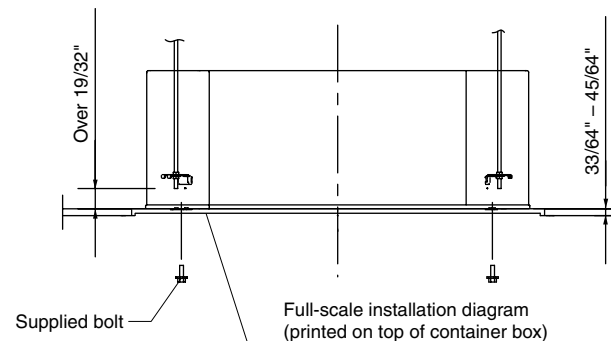

Fig. 3-31
- (1) When placing the unit inside the ceiling, determine the pitch of the suspension bolts using the supplied full-scale installation diagram. (Fig. 3-31)
- (2) The length of suspension bolts must be appropriate for a distance between the bottom of the bolt and the bottom of the unit of more than $19\frac{1}{32}$ " as shown in the diagram. (Fig. 3-31)